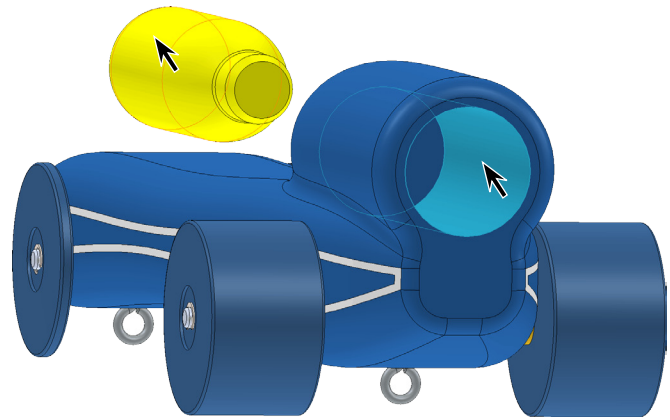

Fig. 20
Step 2. Click **cylindrical face of cartridge hole** and **cylindrical face of Cartridge**, Fig. 20.